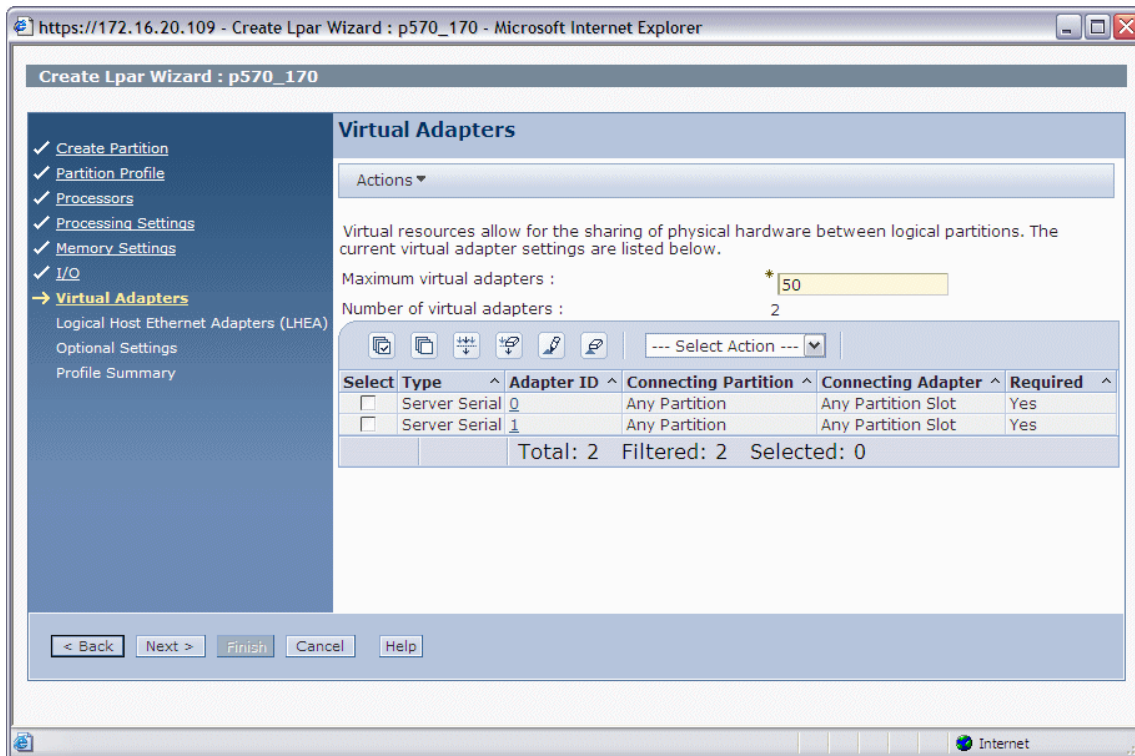

Figure 13-3 The start menu for creating virtual adapters window
5. Create virtual Ethernet and SCSI client adapters. The start menu for creating virtual adapters is shown in Figure 13-3. The default serial adapters are required for console login from the HMC and must not be modified or removed.